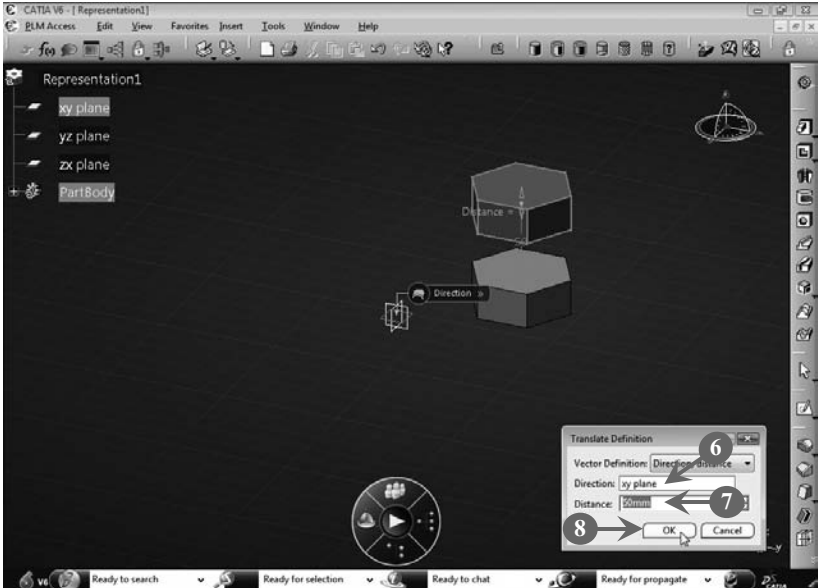

FIGURE 3.87
6. Select the direction in the **Direction** option for the plane representations, along which the solid will be translated. In our case, we select the **xy-plane** (**Figure 3.87**).
7. Enter the distance by which the solid model would be translated. In our case, we set the distance as 50 mm (Figure 3.87).
8. Click the **OK** button in the **Translate Definition** dialog box, as shown in Figure 3.87: